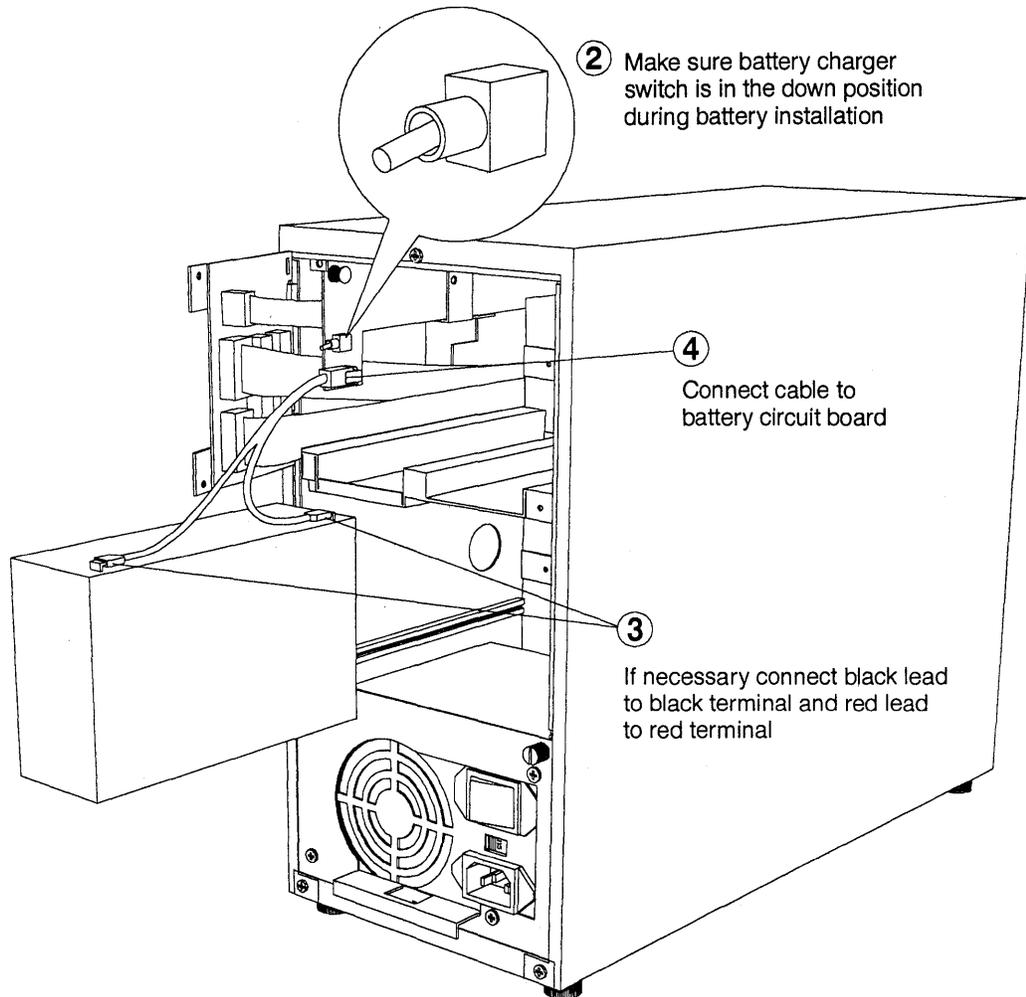

Figure 1-7: Battery cabling
To prevent damage to the SIMM while you install it, disconnect all power to the Daytona before removing or installing a SIMM. This includes unplugging the power cables to the power supplies *and* either switching off or disconnecting the backup battery (see Figure 1-7).
- 2 Make sure the battery charger switch is in the down (off) position. The Daytona should be shipped with the battery charger switch in the off position. See Figure 1-7.
- 3 The battery ships with the black and red leads of the battery cable already connected. If they have become dislodged during shipment, attach the black lead to the black terminal and the red lead to the red terminal. See Figure 1-7.
- 4 Connect the battery cable to the battery circuit board attached to the side of the battery bay. See Figure 1-7.